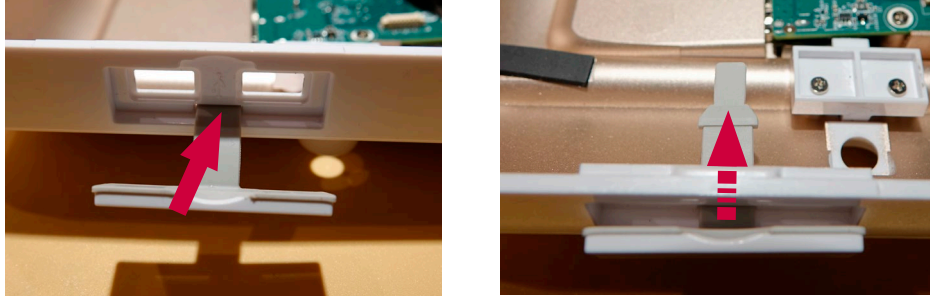

Figure 31 Install a new USB cover
- Insert the new USB cover from the outside of the casing. Gently push the flexible joint in place with a flat screwdriver, taking care not to damage the rubber (Figure 31)**